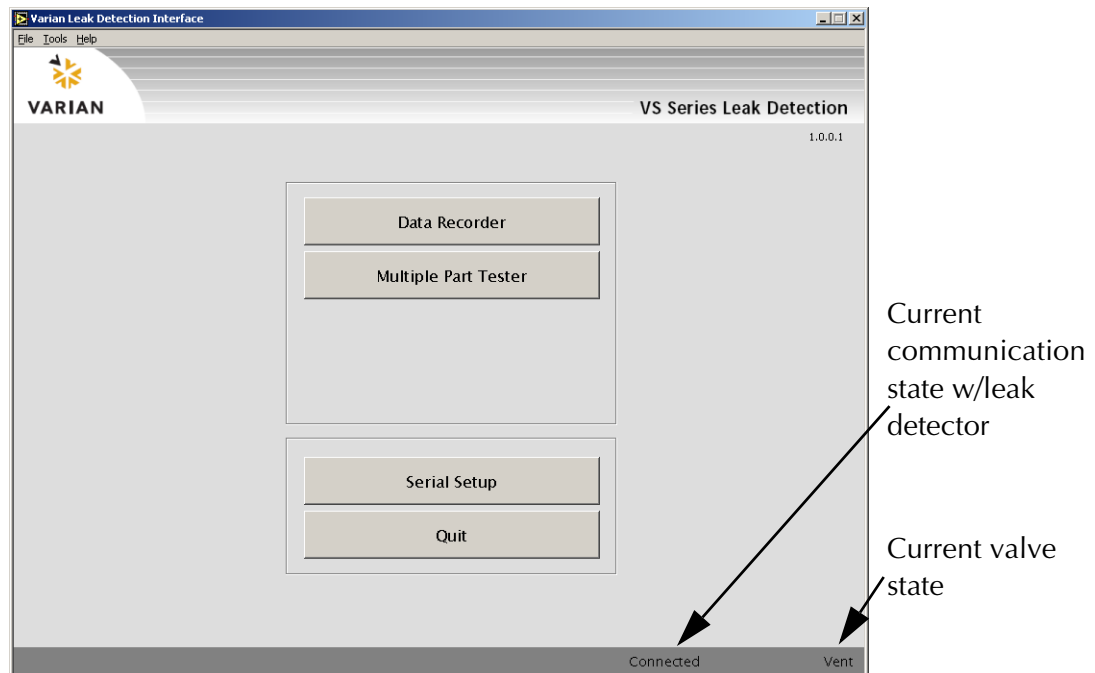

Figure 2-2 Home Screen
3. Click **OK** to save the set up and the *Home* screen reappears (Figure 2-2).